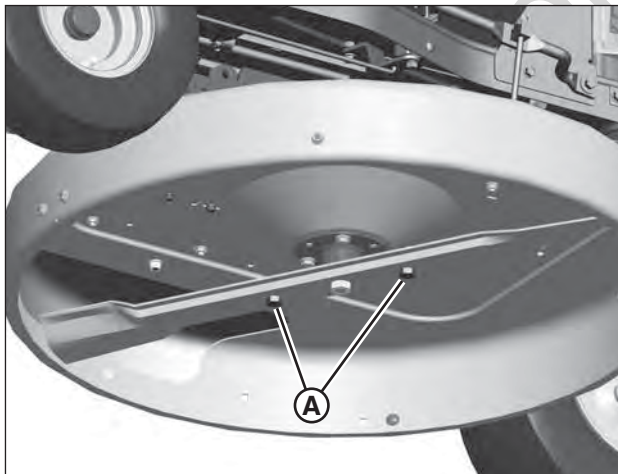

Figure 27: Checking blade bolt torque
1. Check the torque of the blade mounting bolts (A, Figure 27). As necessary, torque to 30 to 40 ft. lbs.